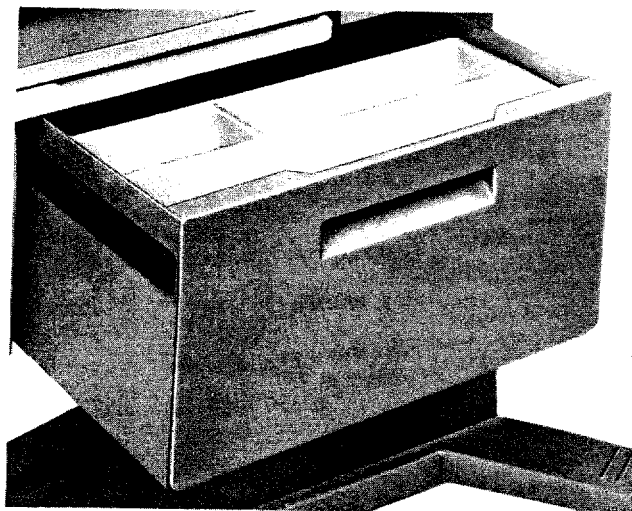

FIGURE 4.8 CHECKING THE PASS-THROUGH DRAWER
4. **CHECK THE PASS-THROUGH DRAWER** (Figure 4.8) by sliding the drawer in and out on both sides of the Bassinet. Return to center position.